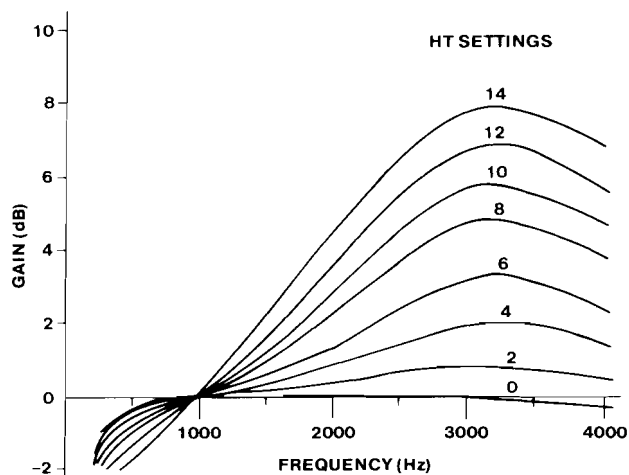
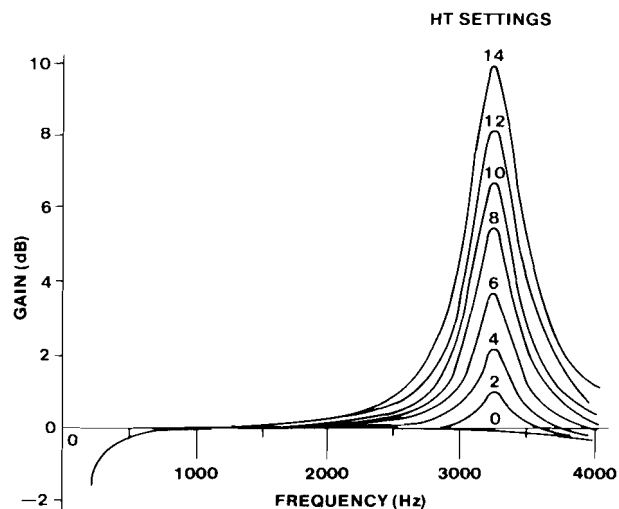

figure 7. Typical response curves for receive-channel equalizer in bump mode, *BW* switch = 14
figure 8. Typical response curves for receive-channel equalizer in bump mode, *BW* switch = 3
2.07 Figures 7 and 8 show typical response curves for the 4001F/02F's equalizer in the bump mode. Figure 7 shows the curves representing various height settings versus a wide bandwidth setting, while figure 8 shows the curves representing various height settings versus a narrow bandwidth setting. For comparison purposes, all frequency response curves in figures 7 and 8 are